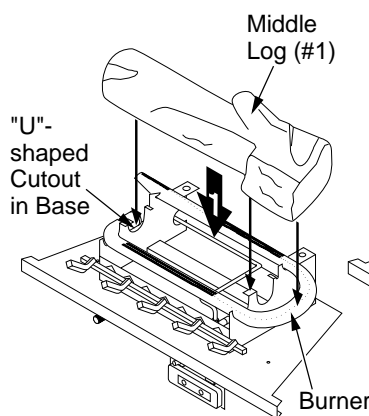

Figure 45 - Installing Middle Log (#1)
1. Place the base of the middle log (#1) in the U-shaped slots of the grate base. The cutout on the right of the middle log should fit over the burner (see Figure 45). Make sure the front of the